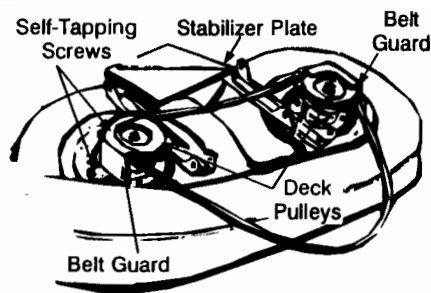

FIGURE 22 - 38" & 42" Decks
10. Remove the belt guards at each deck pulley by removing the self-tapping screws. See figure 22.